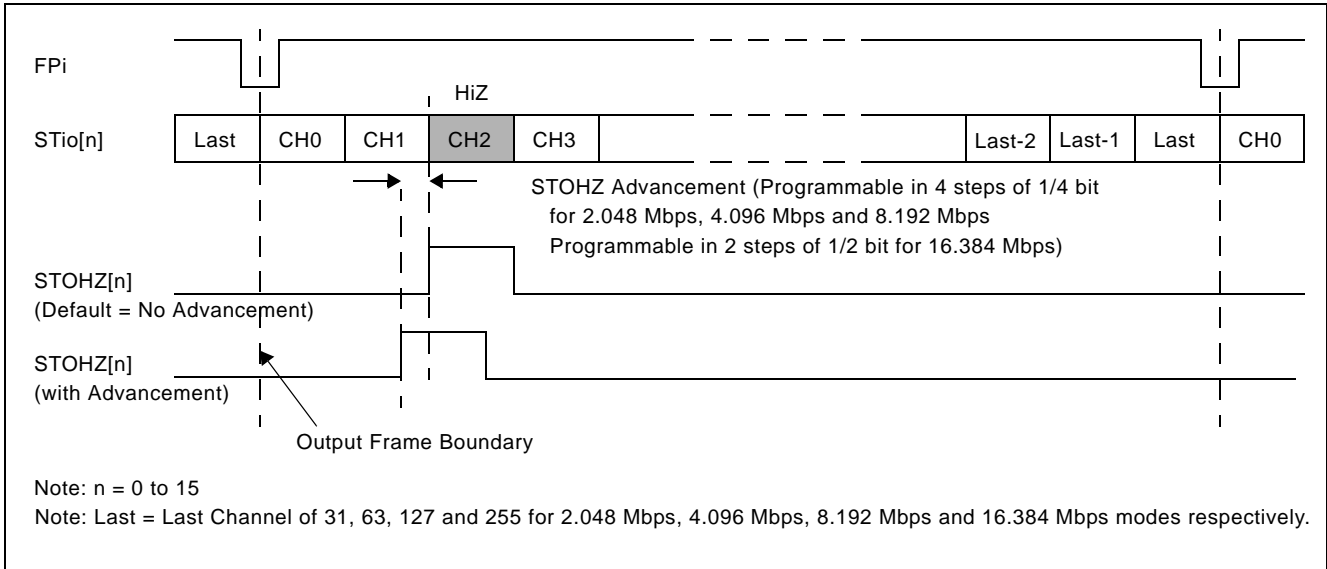

Figure 16 - Channel Switching External High Impedance Control Timing
There are 16 external high impedance control signals, STOHZ0 - 15, that are used to control the external drivers for per-channel high impedance operations. Only the first sixteen ST-BUS/GCI-Bus (STio0 - 15) outputs are provided with corresponding STOHZ signals. The STOHZ outputs deliver the appropriate number of control timeslot channels based on the output stream data rate. Each control timeslot lasts for one channel time. When the ODE pin is high and the OSB (bit 2) of the Control Register (CR) is also high, STOHZ0 - 15 are enabled. When the ODE pin, OSB (bit 2) of the Control Register (CR) or the $\overline{\text{RESET}}$ pin is low, STOHZ0 - 15 are driven high, together with all the ST-BUS/GCI-Bus outputs being tristated. Under normal operation, the corresponding STOHZ outputs of any unused ST-BUS/GCI-Bus channel (high impedance) are driven high. Refer to Figure 16 on page 28 for a diagrammatical explanation.